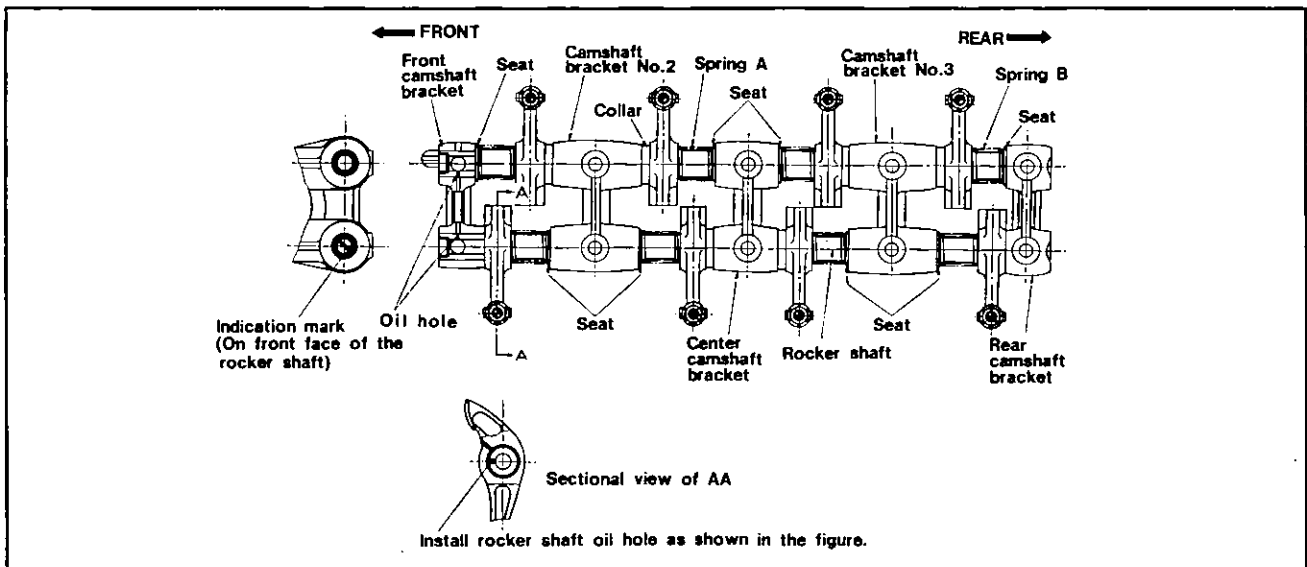

Fig. EM-62 Detail of rocker shaft assembly
3. Assemble the camshaft bracket, valve rocker, seat, spacer, and spring on the valve rocker shaft in the manner shown in Figure EM-62.
b. Both rocker shaft should be assembled so that the oil hole points to the direction shown in Figure EM-62.